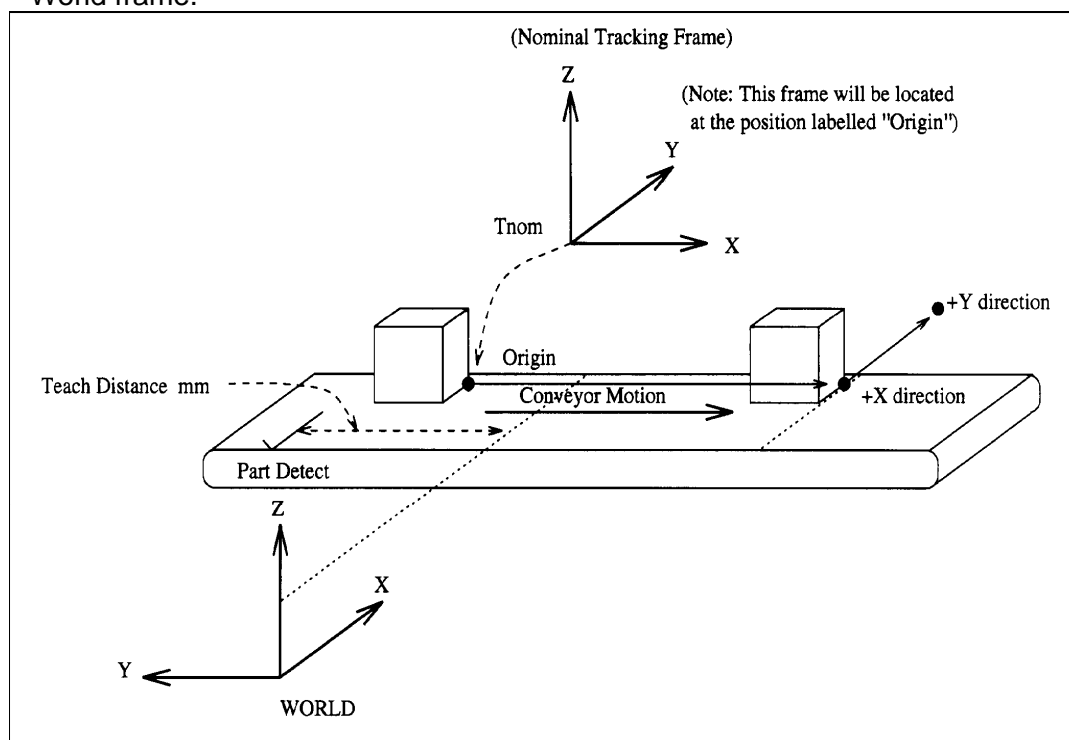

Fig. 3.3.1(a) Nominal track frame - line conveyor motion
- The x-axis of this frame must point in the direction of conveyor FORWARD motion. Use Procedure 3-5 to set this, and all other axes of the nominal tracking frame. The y and z-axes are user-definable, but are typically set so that the z-axis points upward from the surface of the conveyor. Refer to Fig. 3.3.1(a).